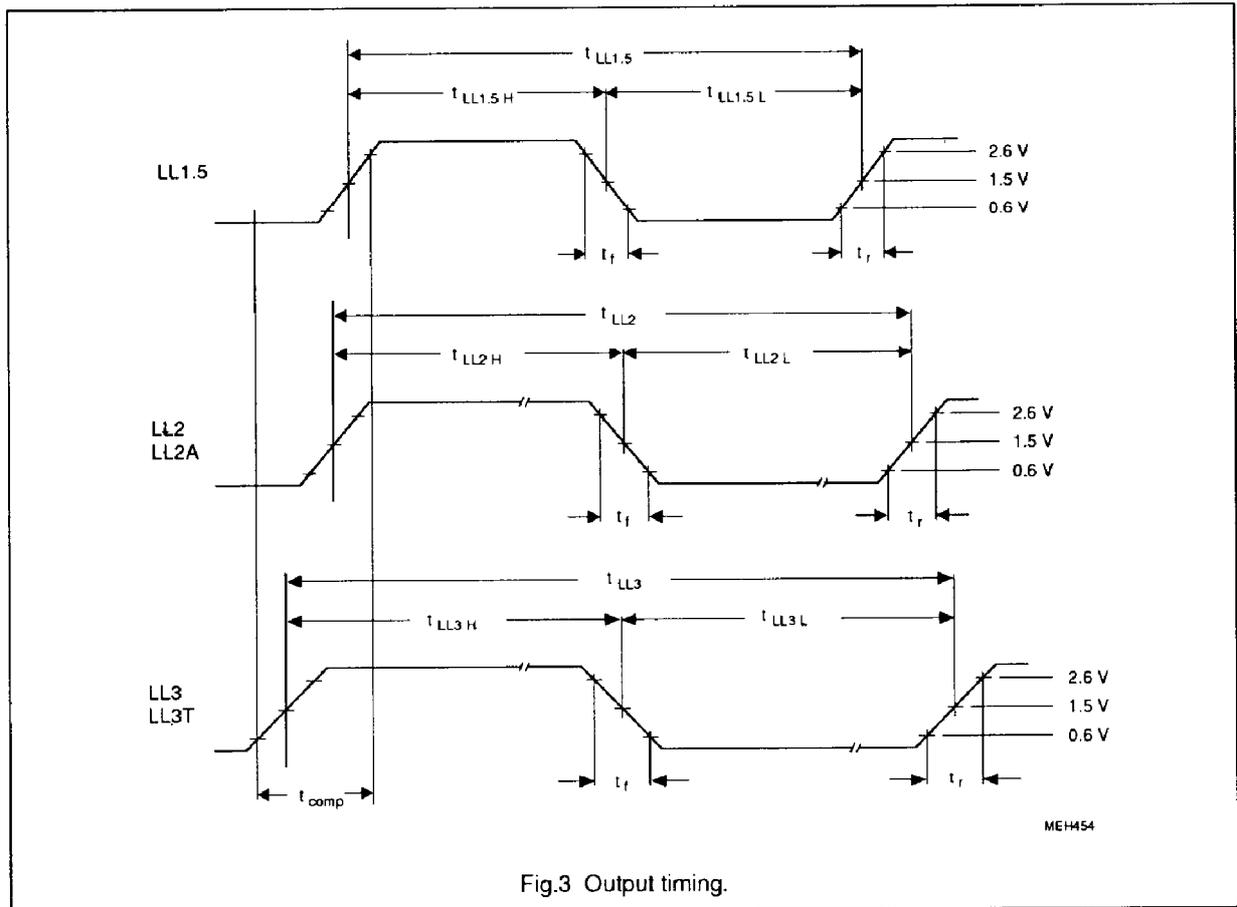

Fig.3 Output timing.
2. t_{comp} is the rise time from LOW of all clocks to HIGH of all clocks (Fig.3) including rise time, skew and jitter components. Measurements taken between 0.6 V and 2.6 V.